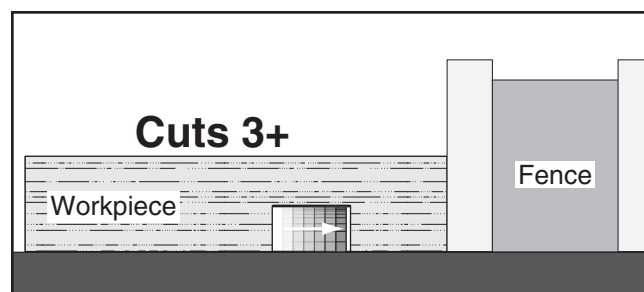

Figure 59. Additional single blade dado cuts.
9. Make additional cuts (see **Figure 59**) in center of dado to clear out necessary material. Dado is complete when channel is completely cleared out.